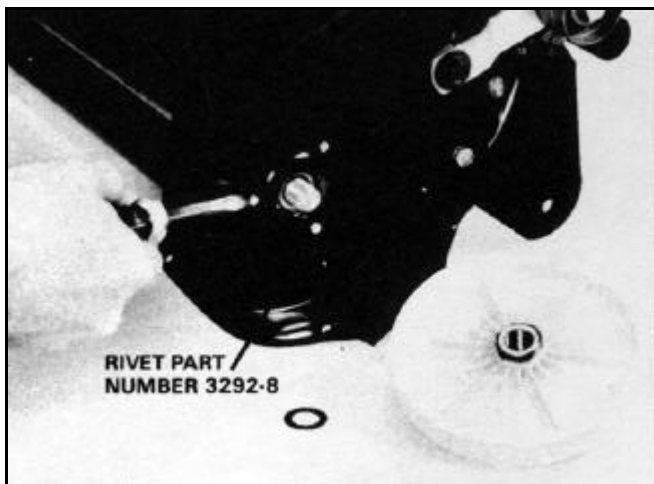

Figure 127
7. If the left hand rotor bearing must be removed, drill out the rivets securing the bearing retainer or flange. When the bearing flange is installed, use three rivets (Figure 127).